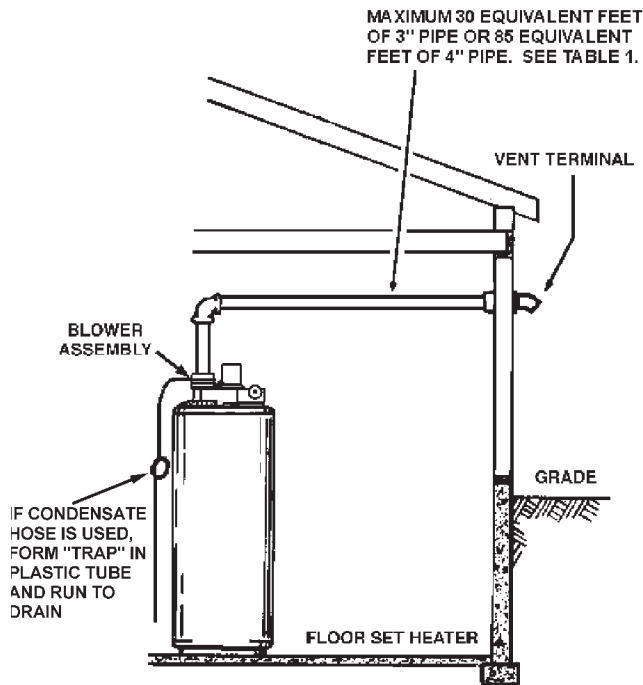
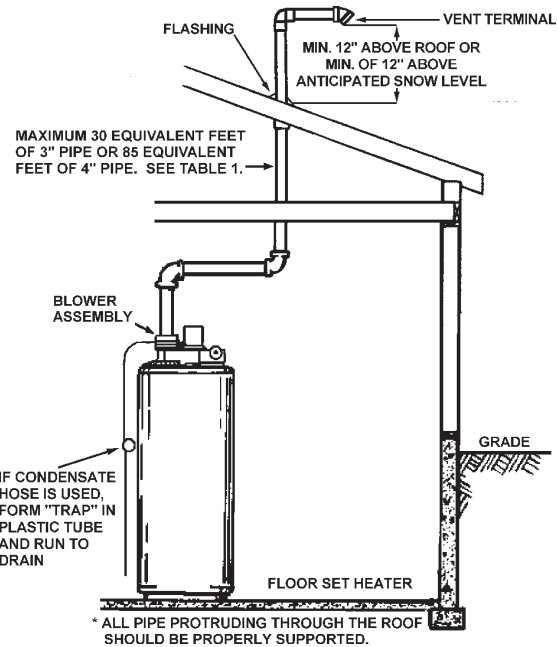

FIGURE 8
FIGURE 9
The first step is to determine where the vent pipe will terminate. See Figures 3, 8 and 9. The vent may terminate through the roof as shown in Figure 9 or through a sidewall as shown in Figure 8.
This unit is approved for venting through the roof with only the vent terminal that is included with the unit, see Figure 9. A proper flashing or "BOOT" should be used to seal the pipe where it exits the roof. The total vent system should not exceed the thirty (30) equivalent feet of 3 inch pipe or eighty five (85) equivalent feet of 4 inch pipe as listed in Table 1.